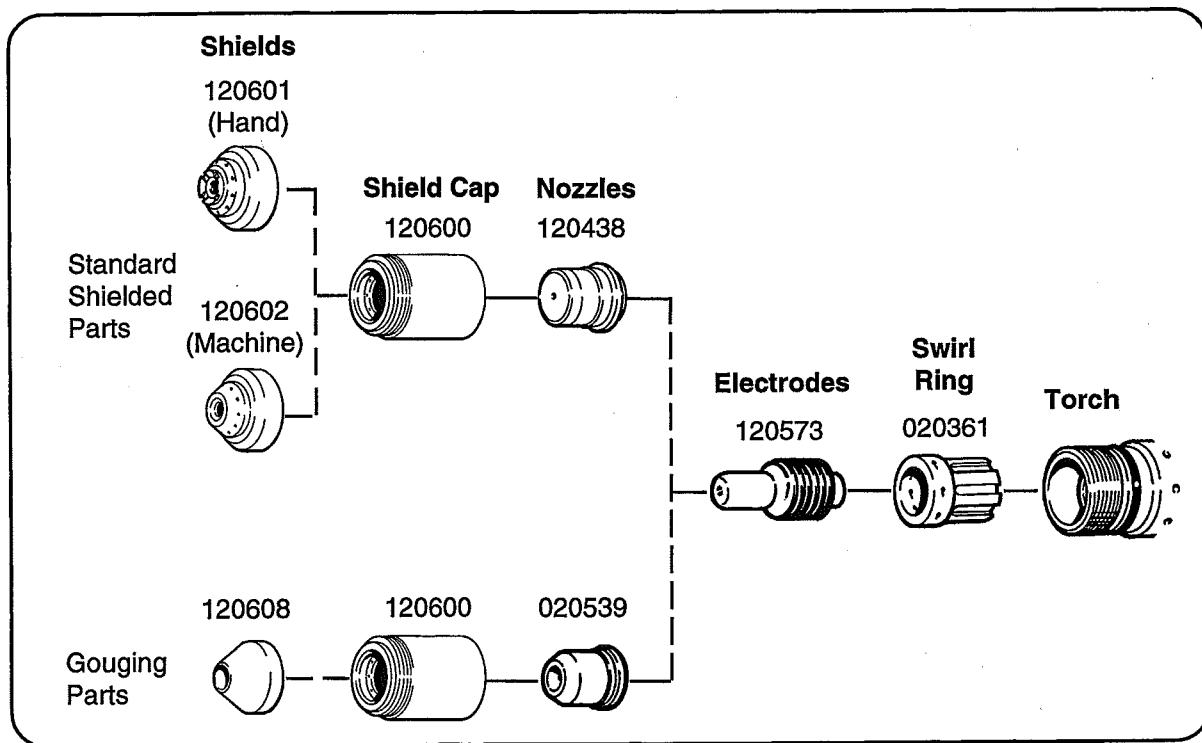

Figure 4-7 Shielded Torch Consumable Parts
* Consumables shown on Figure 4-7 and 4-8.